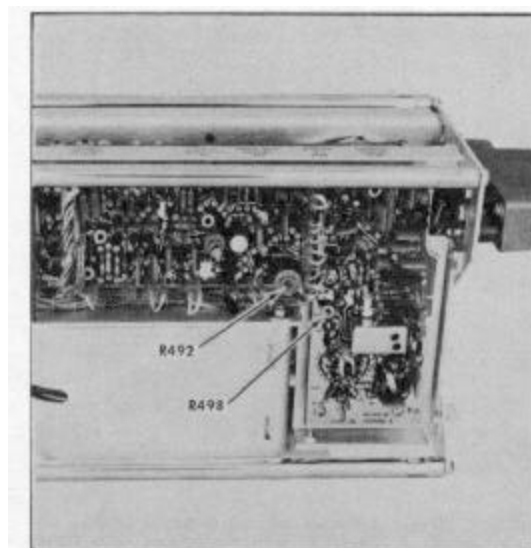

Fig. 8-10. Location of Channel B adjustment controls.
e. In either the 100 or 50 position, adjust the B Bridge Bal control, R492 (location shown in Fig. 8-10) to return the trace to the graticule centerline. As with Channel A, the B Bridge Bal control may reach the end of its adjustment range before it is properly set.